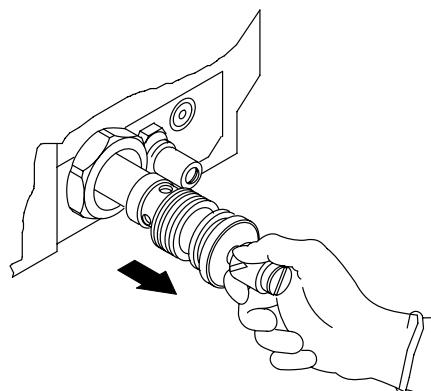

Figure 5-2 Removing the filter assembly
5. See Figure 5-2. Pull the filter assembly out of the manifold.